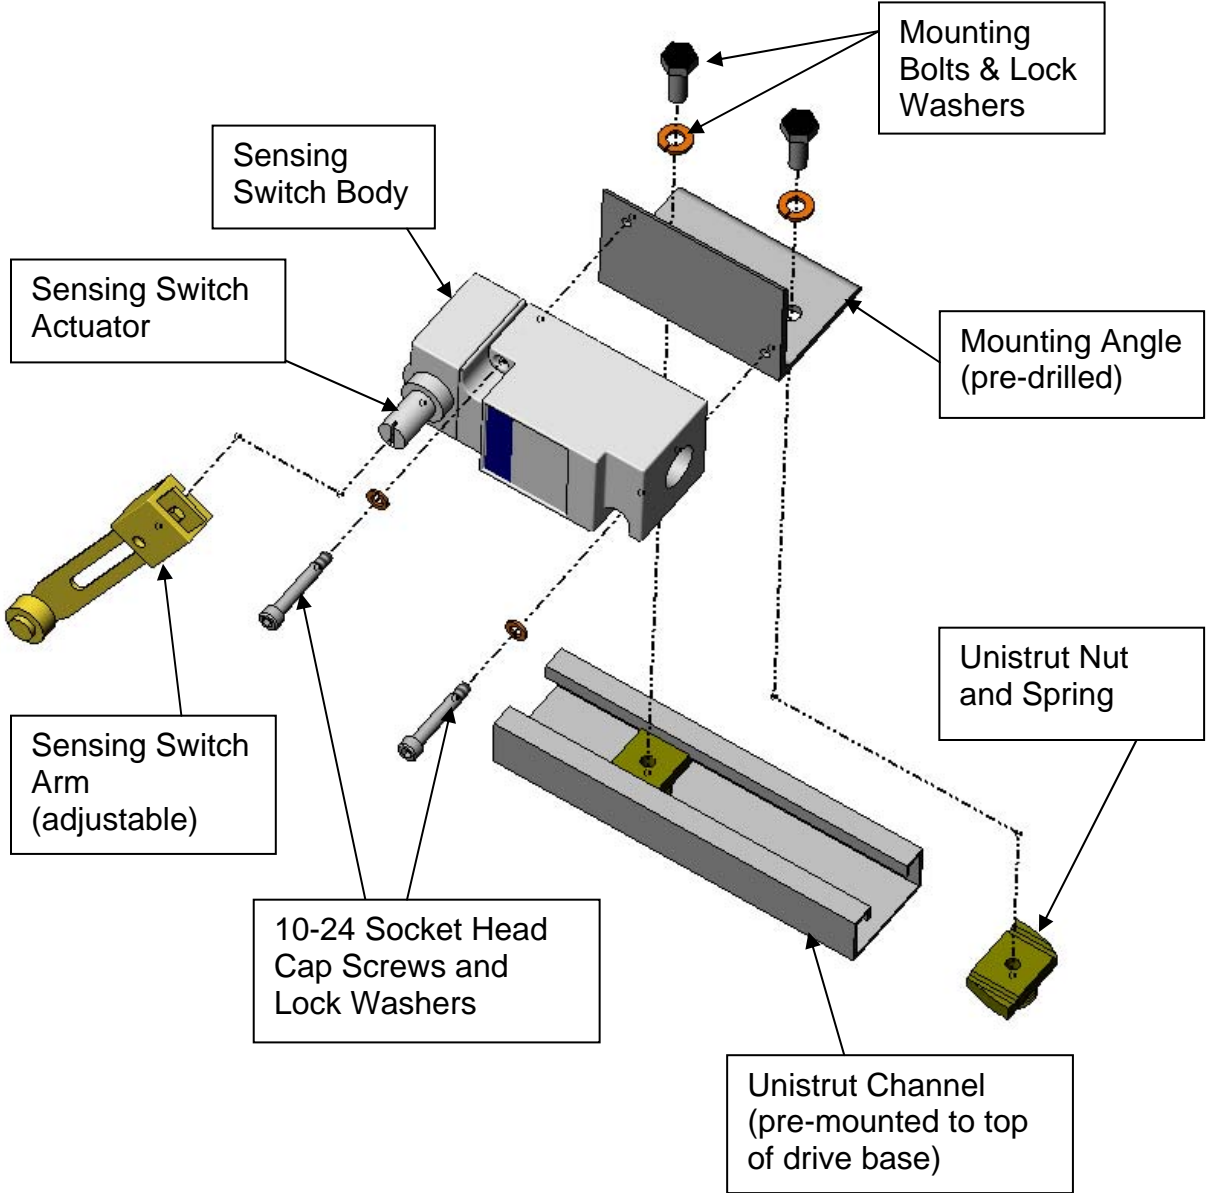

Figure 33a Slack Chain Sensor Kit Assembly
K. INSTALLING SLACK CHAIN SENSING SWITCHES (Ref. Figures 33a & 33b)
1. To install the slack chain sensing switches, first gain a safe access to the drive base at the top of the masts. There is a slack chain sensing switch kit provided for each lifting chain, (2) total.
- a. Install each switch assembly onto its respective Unistrut channel as shown in **Figure 33a**.